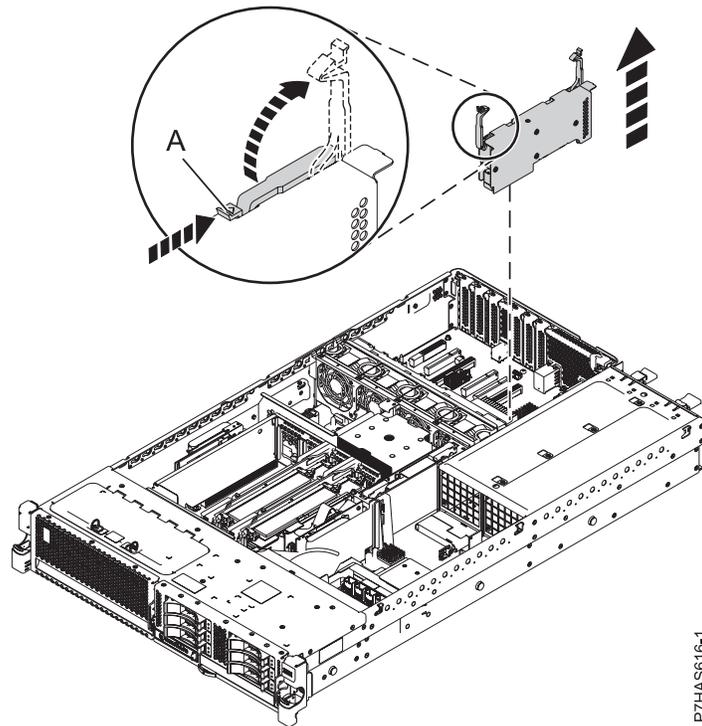

Figure 5. Adapter removal from a system
12. With the system in the service position, remove the existing GX adapter (feature code (FC) EJ0H, GX++ LP 1-port PCIe2 x8 adapter) assembly as shown in Figure 5 on page 7. Unlock the latches (A) on the adapter. Evenly pull up the latches into the open position, and then lift the adapter out of the